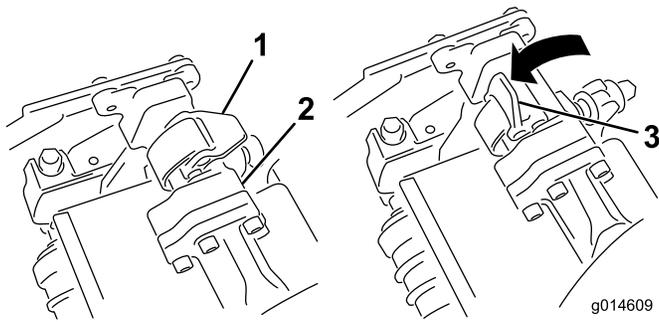
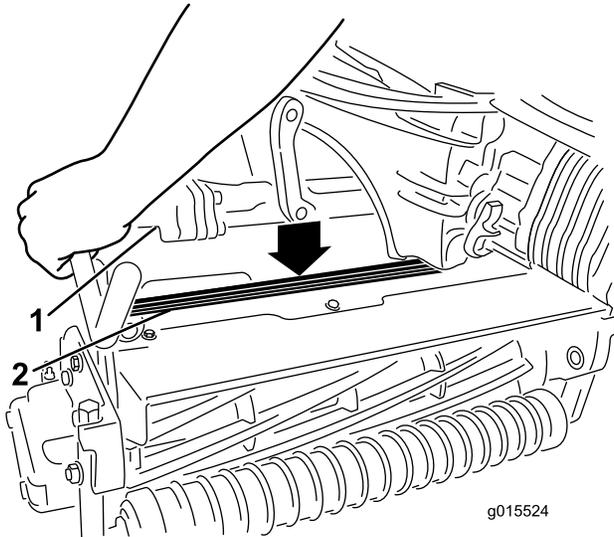

Figure 35
Figure 36
4. With the latches on the suspension-arm bar pointing up (i.e., open) (Figure 35), push the suspension arm down so that the bar fits over the bar across the top of the cutting unit (Figure 36).
5. Close the latches down and around the cutting-unit bar and lock them in place (Figure 35).
5. Open the latches on the suspension-arm bar of the cutting unit you are removing (Figure 35).